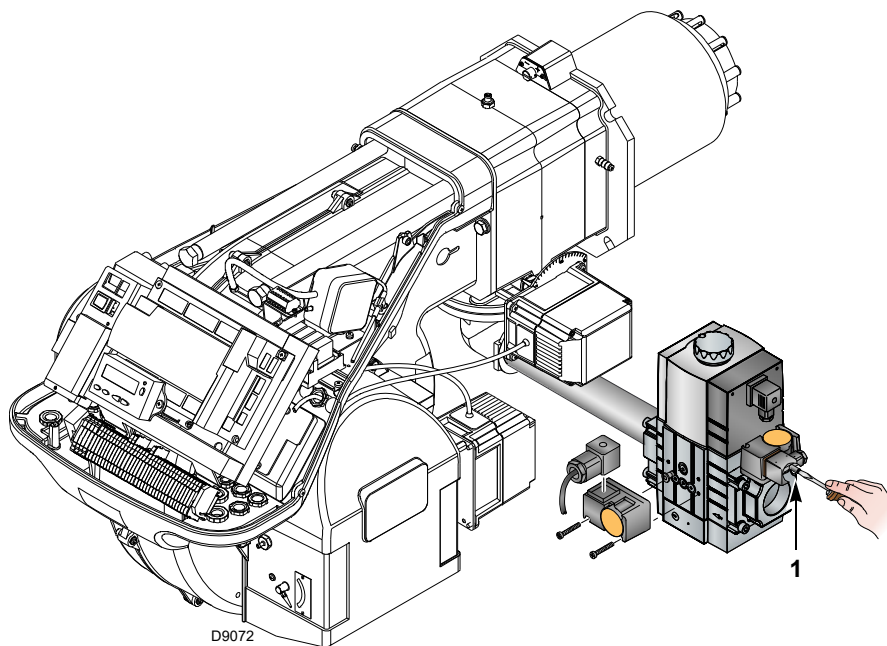

Fig. 30
- Check the gas supply pressure by connecting a pressure gauge to the pressure test point 1)(Fig. 30) of the minimum gas pressure switch: it must be lower than the maximum allowed pressure of the gas train, as shown on the characteristics label.